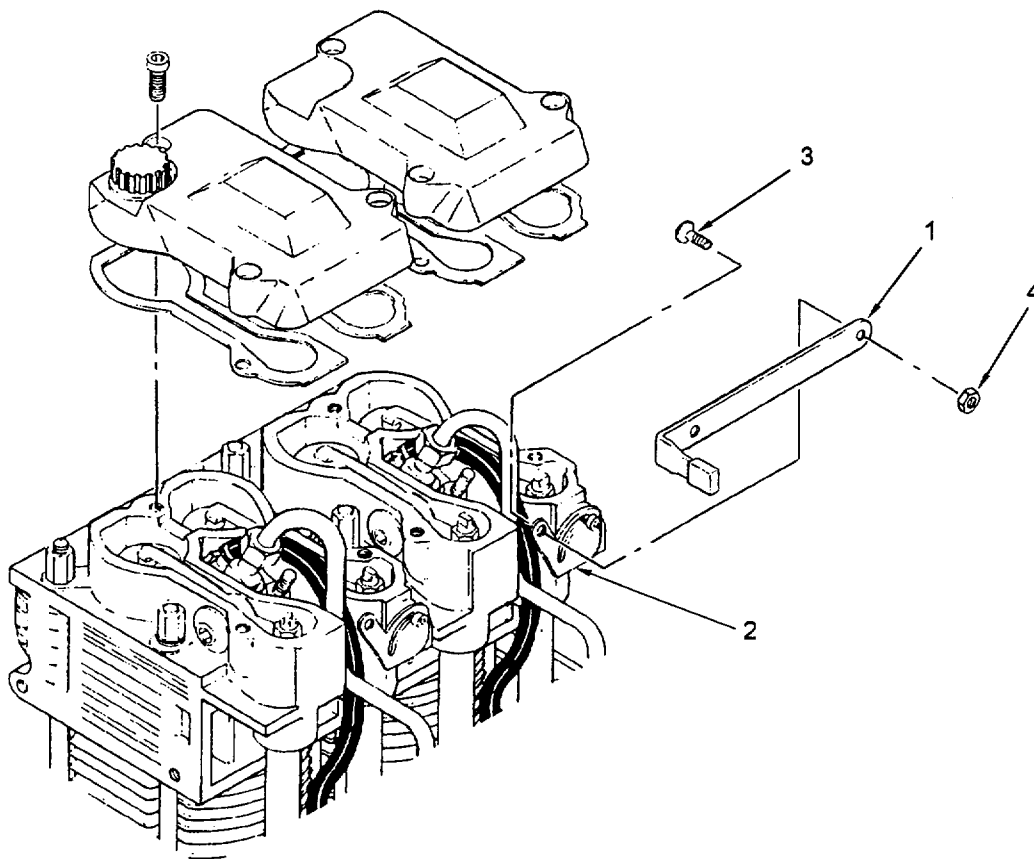

Figure 6-47. Decompression Lever Installation
6.4.23 Install Decompression Lever. (Refer to figure 6-47.)